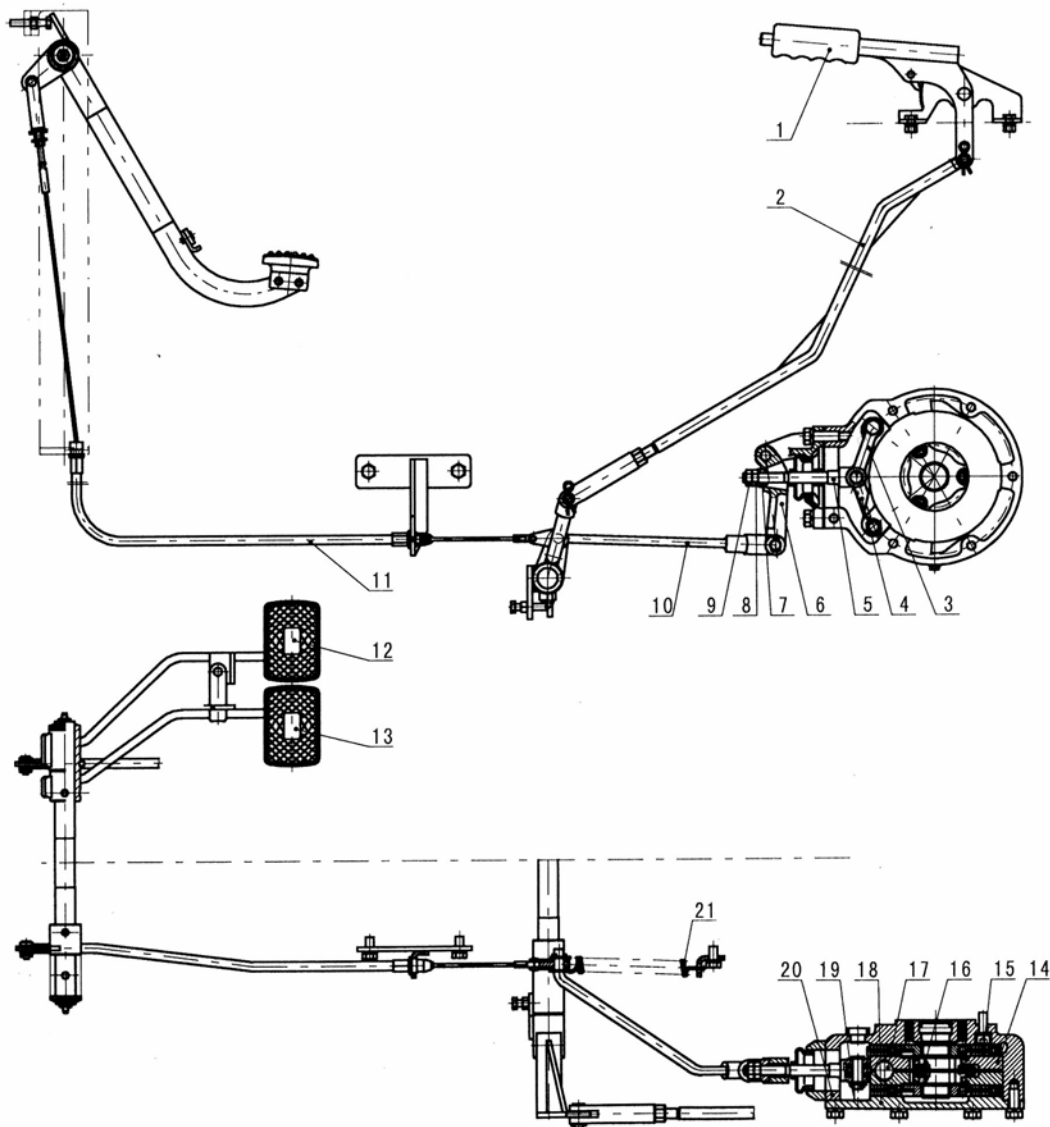

Fig. 6-12 Brake Assembly
(1) Structure and work principle of brake:
The tractor is equipped with sealing disc brakes, they are set on the left side and the right side of the final transmission (small) gear shaft respectively, the right brake or the left brake may be applied in single side, its structure is as Fig. 6-12 with pressing plates (14) and frictional slice assembly (15) .